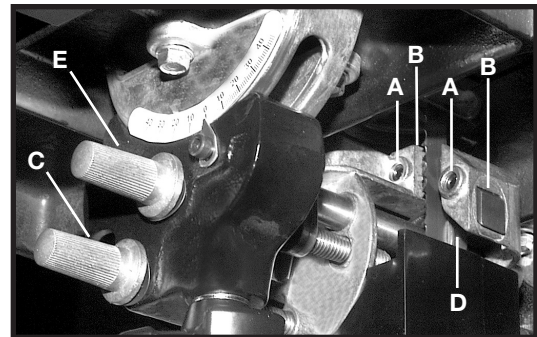

Fig. 29
- Adjust the front edge of the guide blocks (B) so that they are just behind the "gullets" of the saw teeth. Turn the knurled knob (C) Fig. 29 to make this adjustment. Check the support bearing. It should not be touching the back of the blade.
- Loosen the two screws (A) Fig. 29. Move the guides (B) as close as possible to the side of the blade, being careful not to pinch the blade. Tighten screws (A).
- Turn the other knurled knob (E) to adjust the lower blade support bearing (D) Fig. 29 so that it is about $1/64$ " behind the back of the blade.